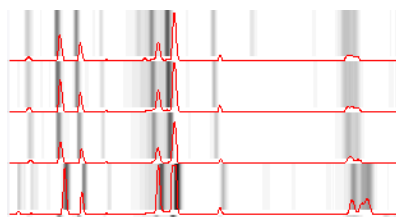

Figure 4.5: Detail
2.3 As a first example, check **Keep edges of fingerprints fixed**. Use 5.0% as **Maximum shift** and enter “5” as **Number of iterations**. Press <OK>. The resulting image looks as in Figure 4.5: